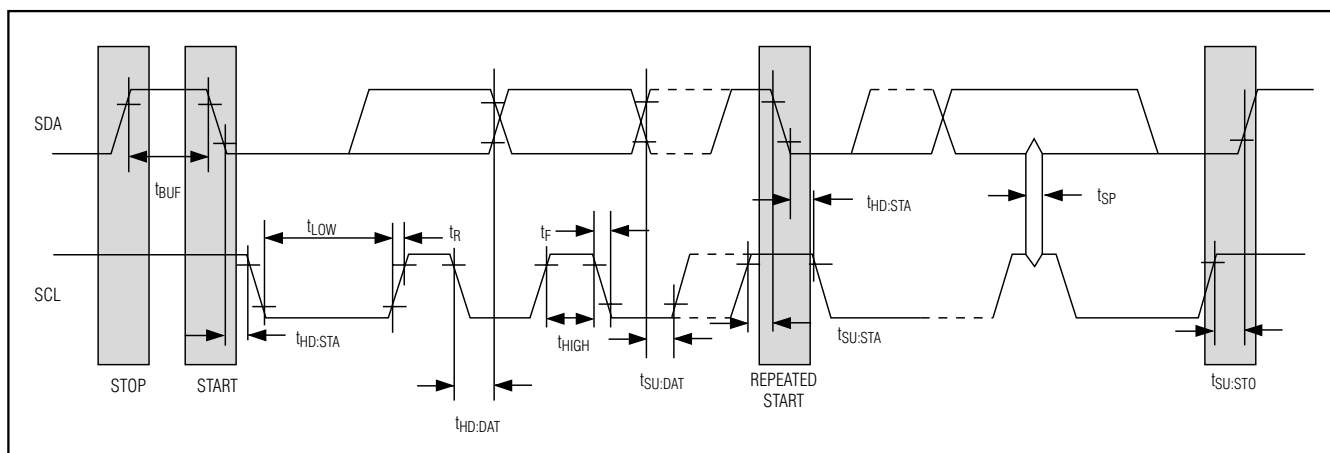

Figure 19. I2C AC Characteristics
**Bit Write:** Transitions of SDA must occur during the low state of SCL. The data on SDA must remain valid and unchanged during the entire high pulse of SCL plus the setup and hold time requirements (Figure 19). Data is shifted into the device during the rising edge of the SCL.
**Bit Read:** At the end a write operation, the master must release the SDA bus line for the proper amount of setup time (Figure 19) before the next rising edge of SCL during a bit read. The device shifts out each bit of data on SDA at the falling edge of the previous SCL pulse and the data bit is valid at the rising edge of the current SCL pulse. Remember that the master generates all SCL clock pulses, including when it is reading bits from the slave.
during the 9th bit. Timing (Figure 19) for the ACK and NACK is identical to all other bit writes. An ACK is the acknowledgment that the device is properly receiving data. A NACK is used to terminate a read sequence or as an indication that the device is not receiving data.